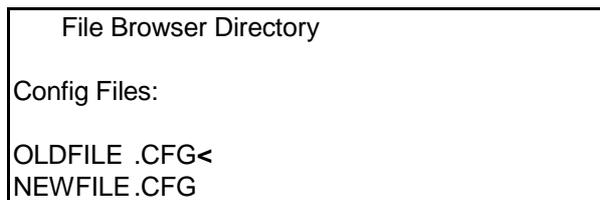

Figure 4-16 Example Config File Directory
2. Press the YES then ENTER buttons. The unit will look on the disk for any configuration files which will be displayed on the File Browser Directory. If more than one file exists on the disk, the directory will list them one above the other, with the current file to be loaded indicated by the "<" sign alongside it as shown below. If no configuration file is found the unit will indicate (No Files Found). The Config file directory looks like Figure 4-16.